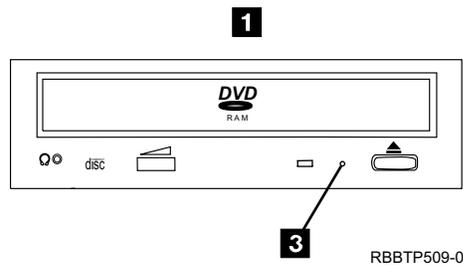

Figure 10. Location of the Manual Unload Hole in the DVD-RAM Drive
2. Insert a solid metal rod (such as a paper clip or bristol wrench) into the manual unload hole until resistance is met, then push to unlatch the DVD disc tray. (Figure 10 shows the manual unload hole **3** in the DVD-RAM drive. The metal rod should have a diameter of 2 mm (0.08 in.) or less.